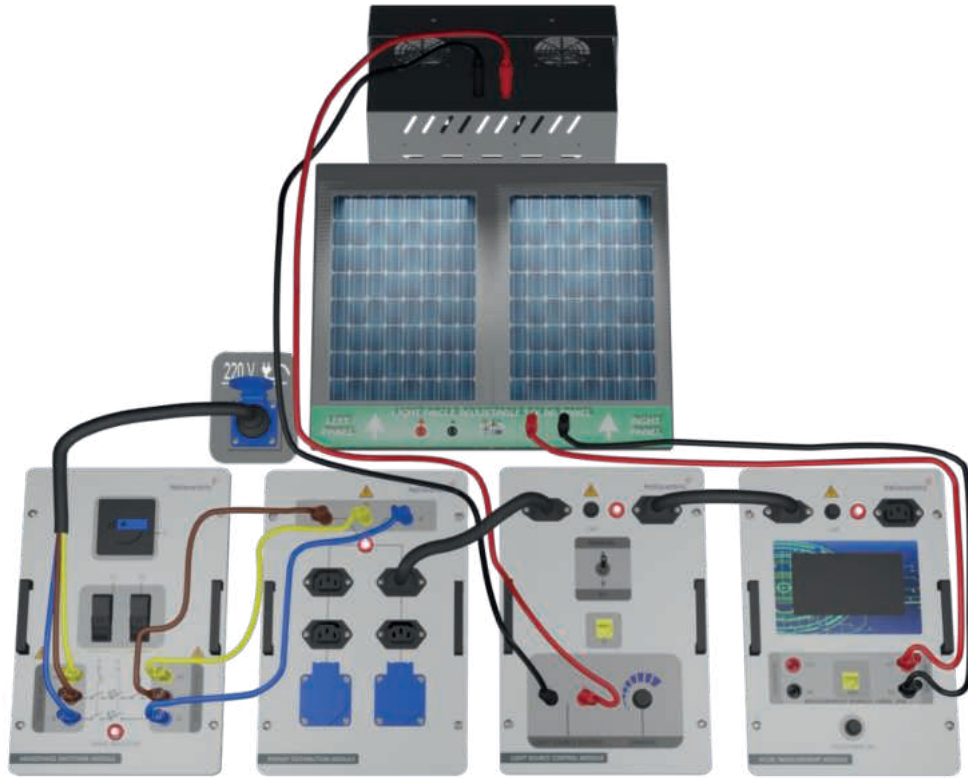

Figure-60. Installation Image of Examination of Mismatching Effect in Photovoltaic Panels
1. Set up the connection as specified in Figure-60. Ensure a constant level of light in the laboratory by creating an average scenario. Any alterations to the positions of the lamps or curtains will have an impact on the experimental outcomes.